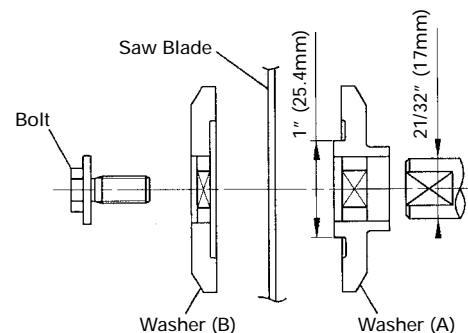

Fig. 37-d
- (7) Press in the spindle lock and tighten the bolt by turning it to the left by standard accessory's wrench (17mm box wrench) as indicated in Fig. 37-c.